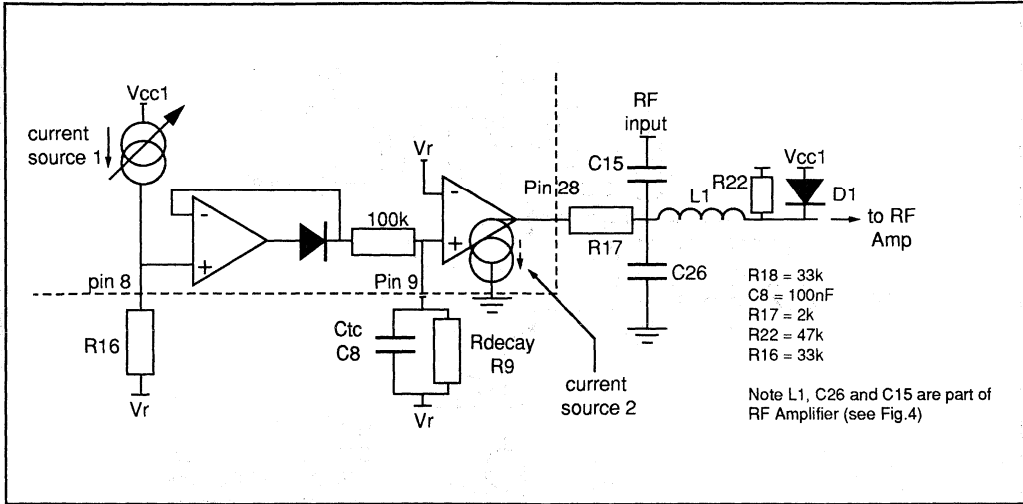

Fig.6 AGC Schematic
- (IAGCOUT) to Vcc1., (R18). The voltage at Pin 8 may still be used as an RSSI. R9, C8, C14, C19, R17 and D1 may then be omitted. See figure.6 for AGC component values.
- Suggested diode for use with the Audio AGC circuit (see figure.6) (D1 is not included on the general demonstration circuit).
- R17 forms a part of the audio AGC circuit (see figure 6) and is determined by the voltage drop required to make the PIN diode D1, conduct to give the RF attenuation required. R17 should be sufficiently large to ensure the voltage at pin 28 does not drop below 200mV. The maximum AGC current expected is 85μA. For the characteristics of the audio AGC current source see